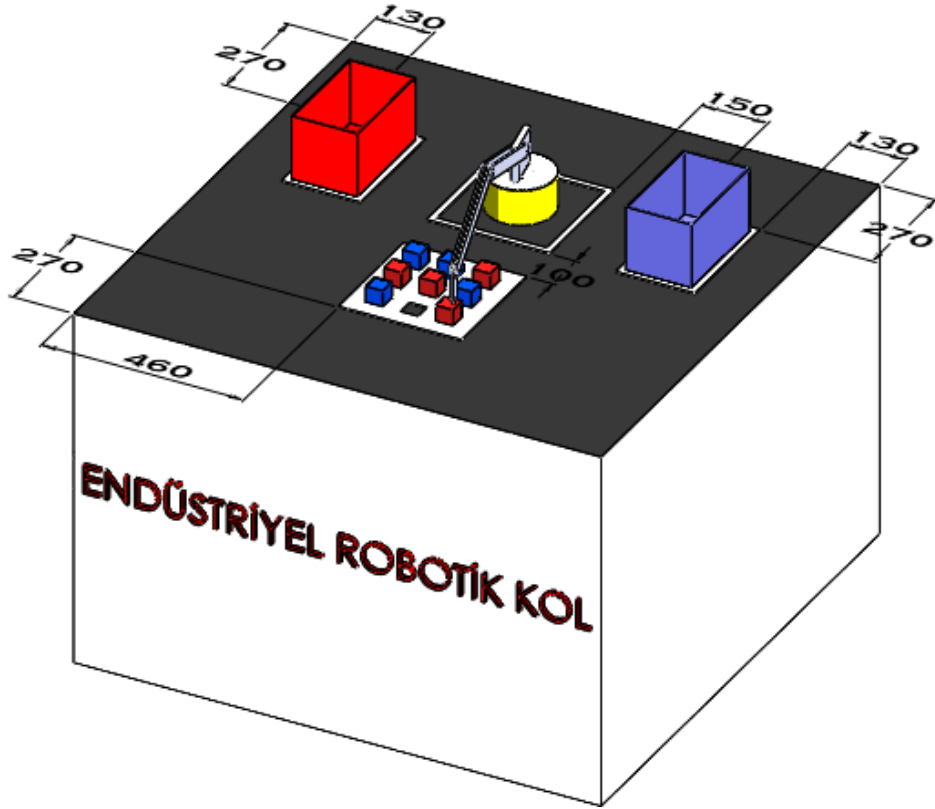

Figure 2: Platform- isometric view
9. It is essential for robots to drop objects at the correct targets. 20 reward points will be awarded for each object taken from the starting area and 30 reward points if placed in the box of the same color. If the object is placed in a box of a different color, 15 reward points will be given. The arrangement of the objects is given as a representation, and the placement of colored cubes will be done randomly before each contestant during the competition. The robot arm is placed as a representation. Figure 2 and Figure 3 show the robotic arm platform.